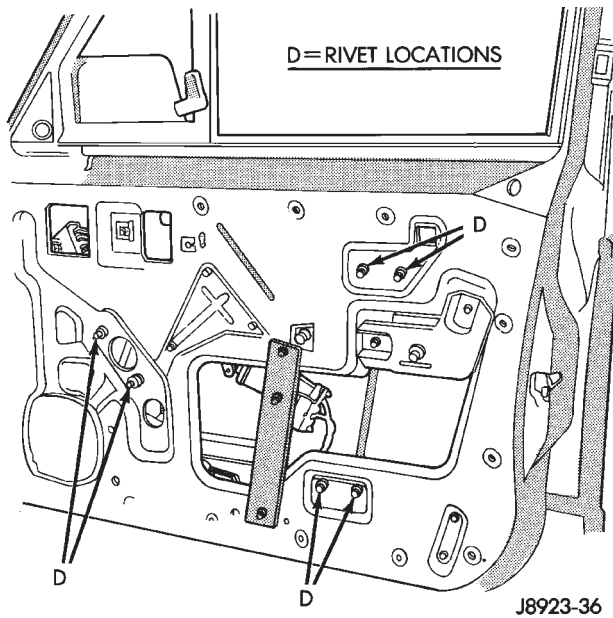

Fig. 41 Manual Window Regulator Rivets
- (3) Remove the window regulator rivets by driving the rivet centers out with a punch. Remove the rivets with a 1/4-inch drill bit (Figs. 41 and 42).